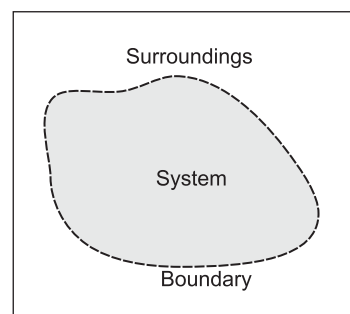

Figure 1.6 System, boundary and surroundings
1. **System:** A region or volume under study for thermodynamic properties in relation to the rest of the universe is called a system (Figure 1.6).
2. **Boundary:** An imaginary or real contour separating system from the surroundings. It may be flexible or fixed. All energy interactions from/to the system take place across this boundary (Figure 1.6). Boundary does not store any energy whatsoever.
3. **Surroundings:** The region beyond the boundary of a system is called surrounding (Figure 1.6).